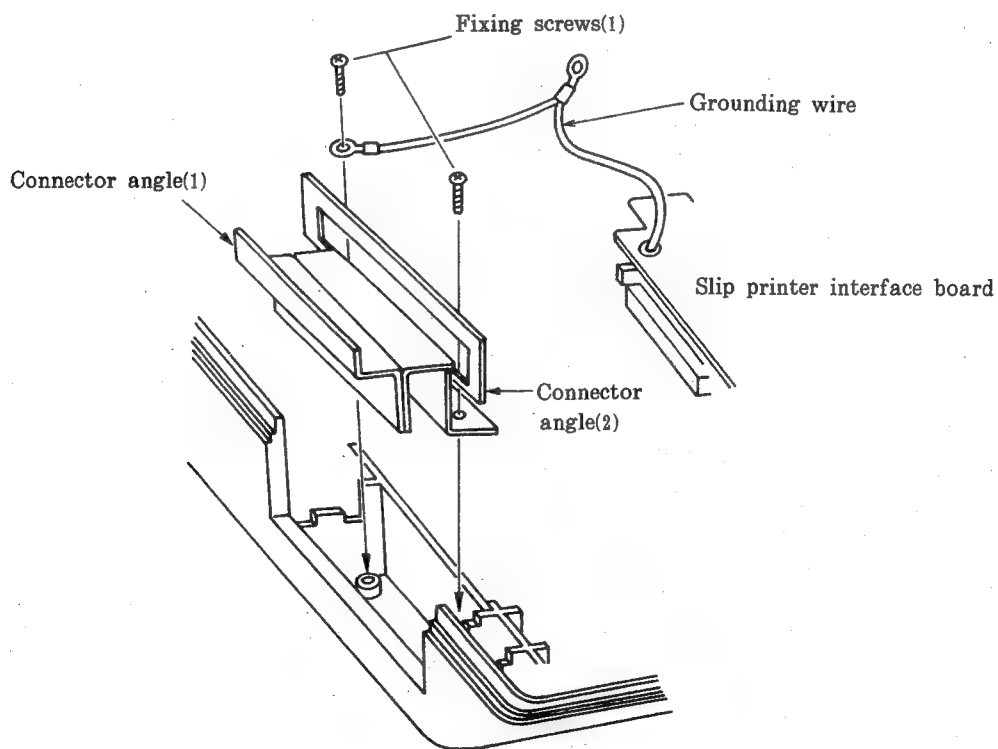

Fig. 41
- 5) Mount the connector angles (1) and (2) and the grounding wire to the lower cabinet at the same time. (See Fig. 41.)